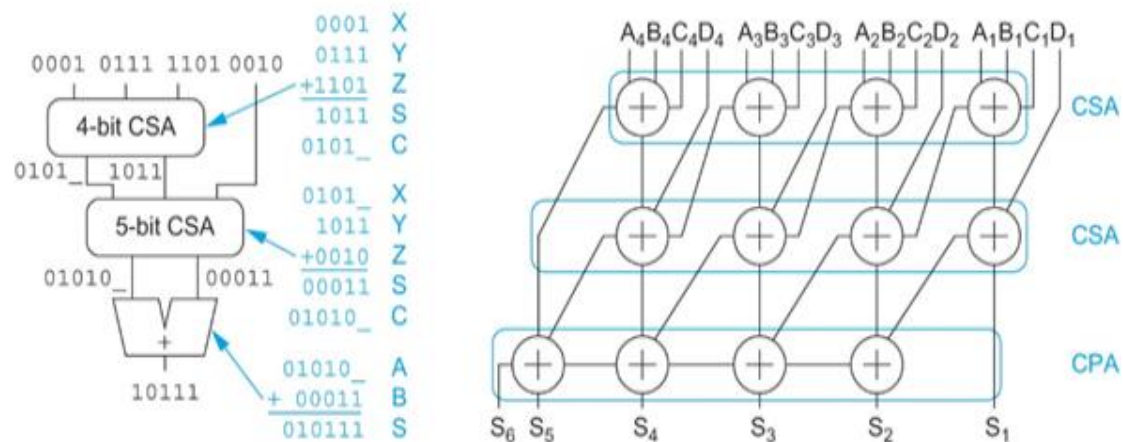

Fig.1
1. Design a 24-bit 2's complement multioperand adder ($A+B+C+D+E$) using Carry-Save Adder + Carry skip adder. To further optimize the delay, each module can have different size. **The goal is to have minimum critical path delay time with the least gate count. Assume there is no overflow during the additions. The internal word length of each module is 24 bits (60)**
(a) Show your block diagram like that shown in Fig.1. The CPA in Fig.1 shall be the carry skip adder with variable group size (Fig.2). Indicate the critical path. Explain your design concept (20)